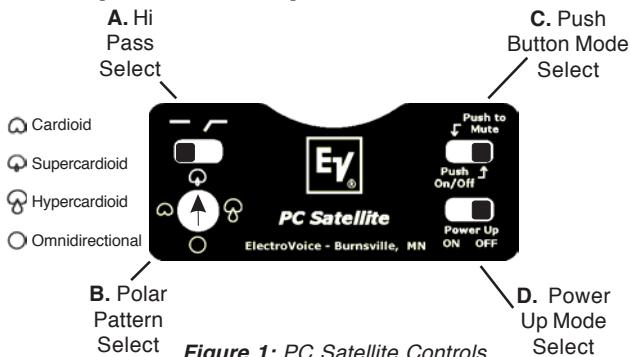

Figure 1: PC Satellite Controls
- 1) **A.** Select High-Pass switch position (see figure 1).
- B.** Select preferred polar pattern (see figure 1).
- C.** Pushbutton Mode Select (see figure 1) -
- D.** Power Up Mode Select (see figure 1) - This mode only functions when control **(C)** is set to “Push On/Off”.